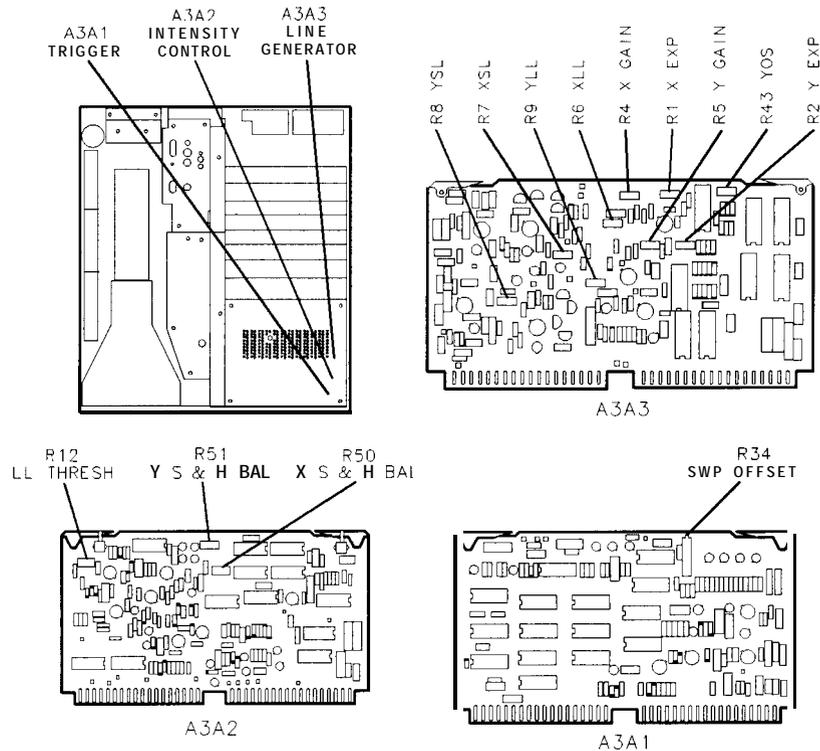
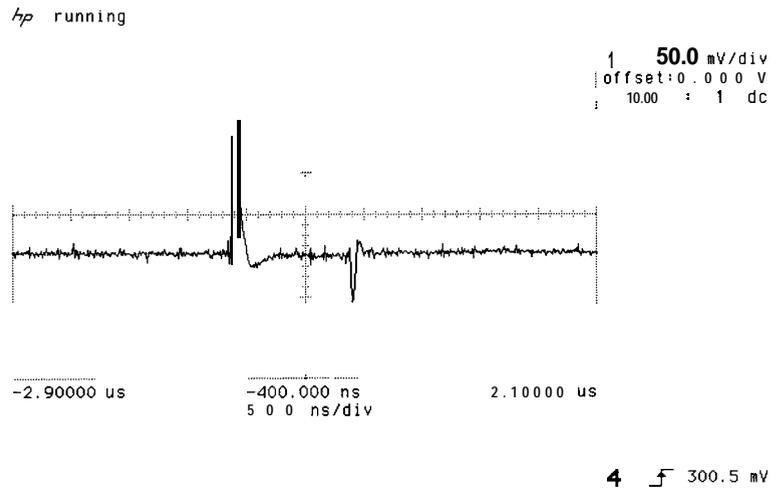
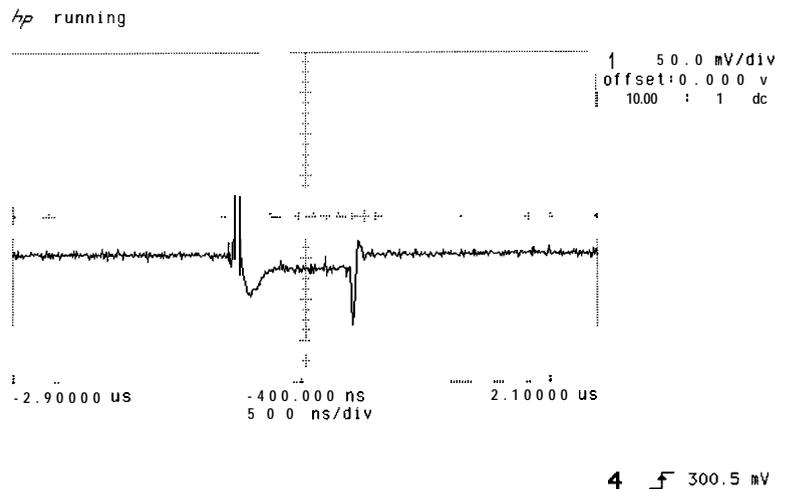

Figure 3-90. Location of Digital Storage Display Adjustments
Figure 3-91. Sample and Hold Balance Adjustment Waveforms
Figure 3-92. Waveform Before Adjustment
4. Adjust A3A3R4 X GAIN and A3A3R5 Y GAIN to place graticule information completely on CRT. See Figure 3-90 for location of adjustment.
5. Adjust A3A2R12 LL THRESH fully clockwise. See Figure 3-90 for location of adjustment.
6. Adjust A3A3R6 XLL so that horizontal graticule lines just meet the vertical graticule lines at the left and right sides of the graticule. See Figure 3-90 for location of adjustment.
7. Adjust A3A3R9 YLL so that vertical graticule lines just meet the horizontal graticule lines at the top and bottom of the graticule. See Figure 3-90 for location of adjustment.
18. Connect A3A3TP11 to oscilloscope External Trigger Input and adjust oscilloscope controls for display as shown in Figure 3-91.
19. Adjust A3A2R50 X S&H BAL for minimum dc offset between the level of the signal inside the two pulses to the signal level outside the two pulses. Figure 3-91 shows a properly adjusted waveform. Figure 3-92 shows the waveform before adjustment. Refer to Figure 3-90 for location of adjustment.
29. Adjust A3A1R34 SWP OFFSET so that **the** signal trace begins at the left edge graticule line. Refer to Figure 3-90 for location of adjustment.
30. Adjust A3A3R4 X GAIN for twenty cycles displayed on **the** CRT graticule. This may be made easier by adjusting A3A1R34 SWP OFFSET so that the first peak is centered on the left edge graticule line, then adjusting A3A3R4 X GAIN for two cycles per division with the twentieth cycle being centered on the right edge graticule line. A3A1R34 SWP OFFSET must then be readjusted so that **the** trace begins at the left edge graticule line. See Figure 3-90. for location of adjustment.